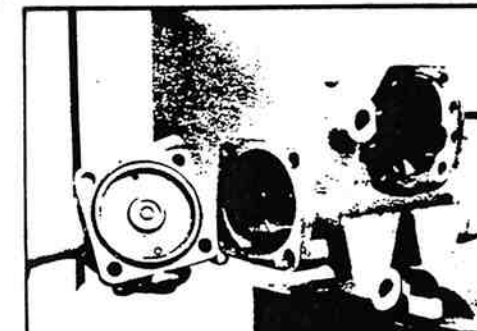

Figure 11-24. Removing End Cover.
20. Remove the end cover (26) (figure 11-24). Some fluid will drain at this point.